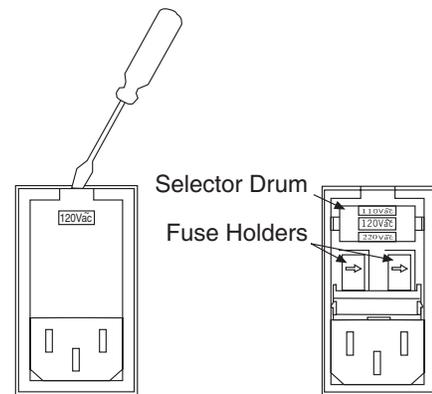

Figure 39. Power Input Module
1. As shown in Figure 39, place the flat side of a flat bladed screwdriver parallel to the back of the Controller and behind the small tab at the top of the power module, and twist the screwdriver slowly but firmly to pop the module open.